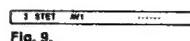

Fig. 9.
- 5 Using Δ + or ∇ -, select C (to preset a regular channel) or F (to tune in by frequency) and press OK. The first element of the «CH» number will be highlighted. If you have selected EXT in step 4, select the video input source with Δ + or ∇ -. (See Fig. 9.)